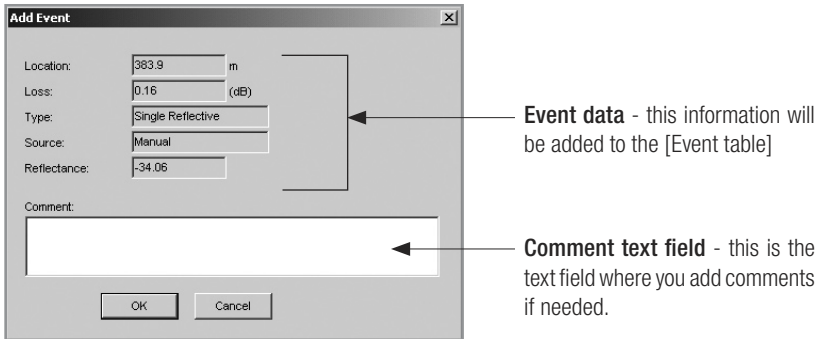

Figure 5-1: Add Event Dialog Box.
- From the [Comments] submenu, select the [Edit comment] command to display the [Edit Event] dialog box (see Figure 5-1).